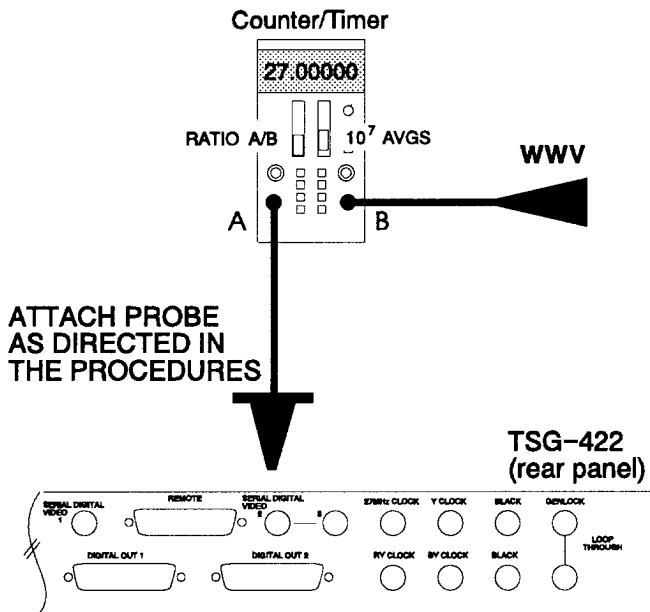

Fig. A-9. Setup to Adjust the Serial VCO Frequency.
- Connect the equipment as shown in Fig. A-9, connecting the A probe to TP1.
- Connect the equipment as shown in Fig. A-9, connecting the A probe to TP101.